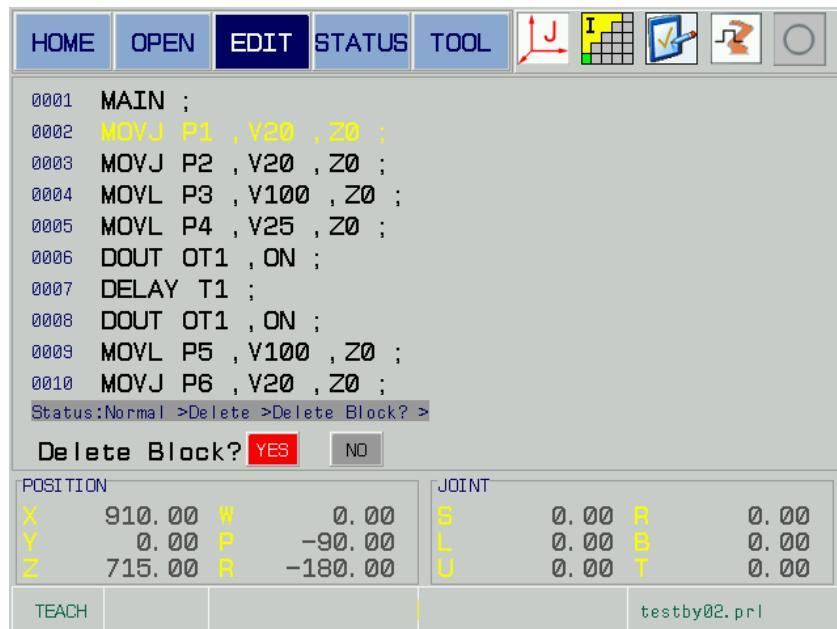

Fig. 5-36
3. Press [DELETE] button before selecting the area, in this case, the page shows deleting the current line confirmation frame, and then select whether delete it by left/right direction button; refer to Fig. 5-36.